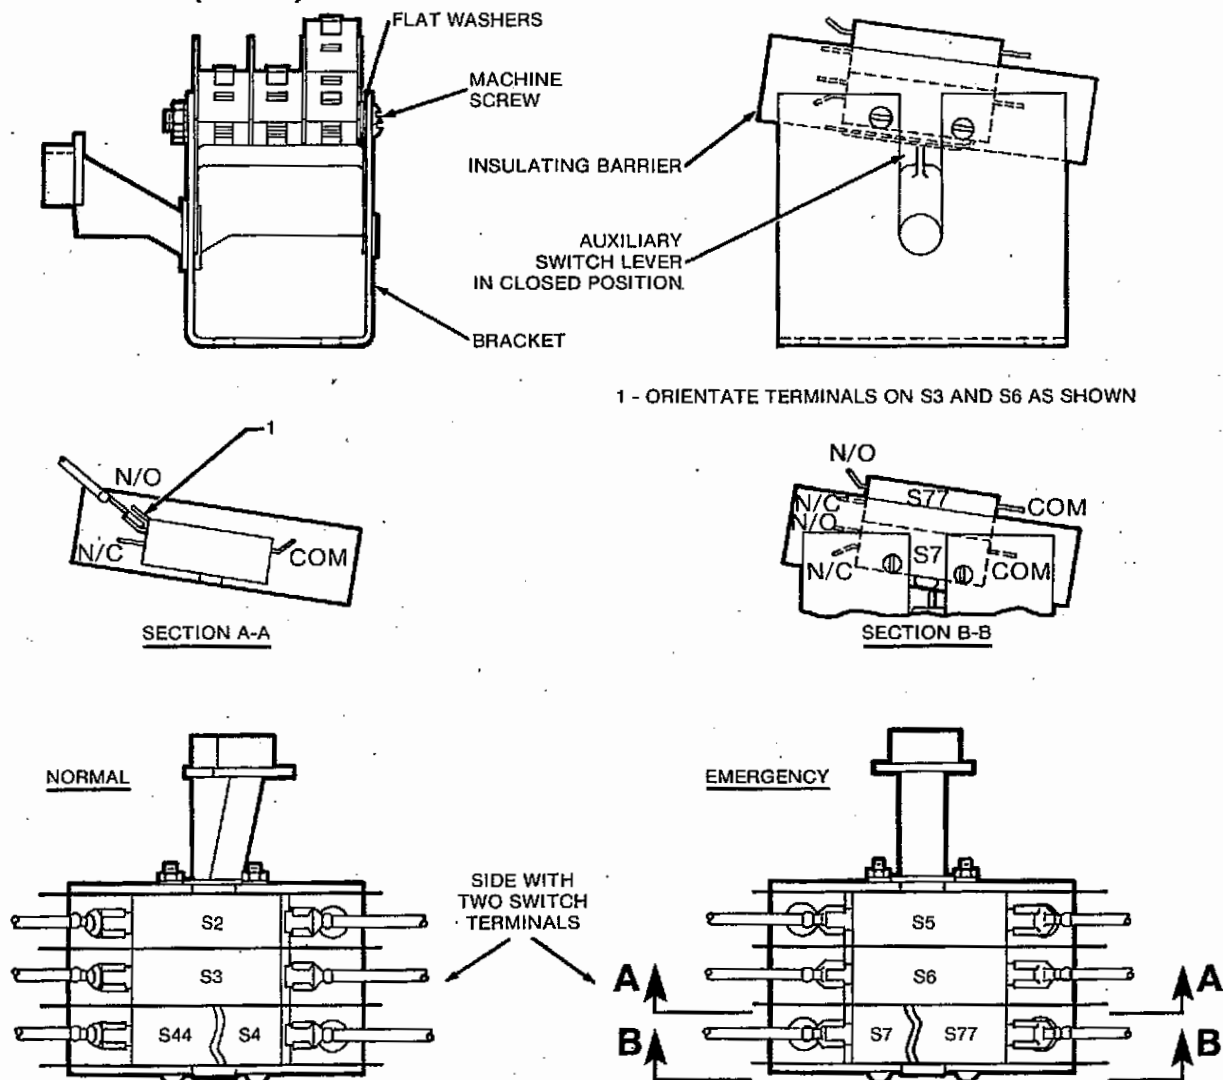

FIGURE 42. AUXILIARY SWITCHES
4. Remove the control wiring leads from the auxiliary switch terminals (see Figure 42).
7. Remove the round head machine screws, flat washers, and nuts that secure the auxiliary switches to the bracket (see Figure 42); and lift out the four auxiliary switches, insulating barriers, and switch lever.
1. Place the auxiliary switch lever in the bracket as shown in Figure 42.
2. Install the flat washers (4), insulating barriers (4), and auxiliary switches (3) in the bracket; and secure with round head machine screws (2) and nuts (2). Note that each switch must be assembled so the side with two terminals faces inward (see Figure 42) when the auxiliary switch assembly is installed.
5. Place the plug bracket in position on the transfer switch base and secure with the four ET screws (4). Tighten 25 to 30 in. lb (2.8 to 3.4 N•m).
6. Place red plastic cover in position and secure with the ET screws (4). Tighten 25 to 30 in. lb (2.8 to 3.4 N•m).